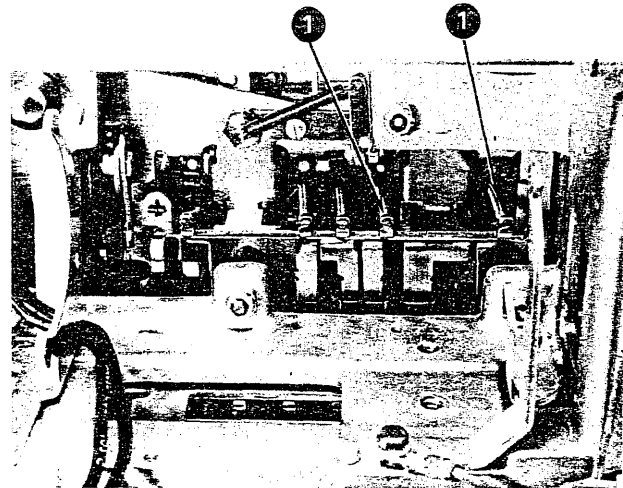

Figure 4-27. Tilt-Selection-Differential Removal (Steps 6 and 7)
6. Remove the tilt-latch springs (No. 1, Figure 4-27).
7. Remove the tilt links (No. 2, Figure 4-27).